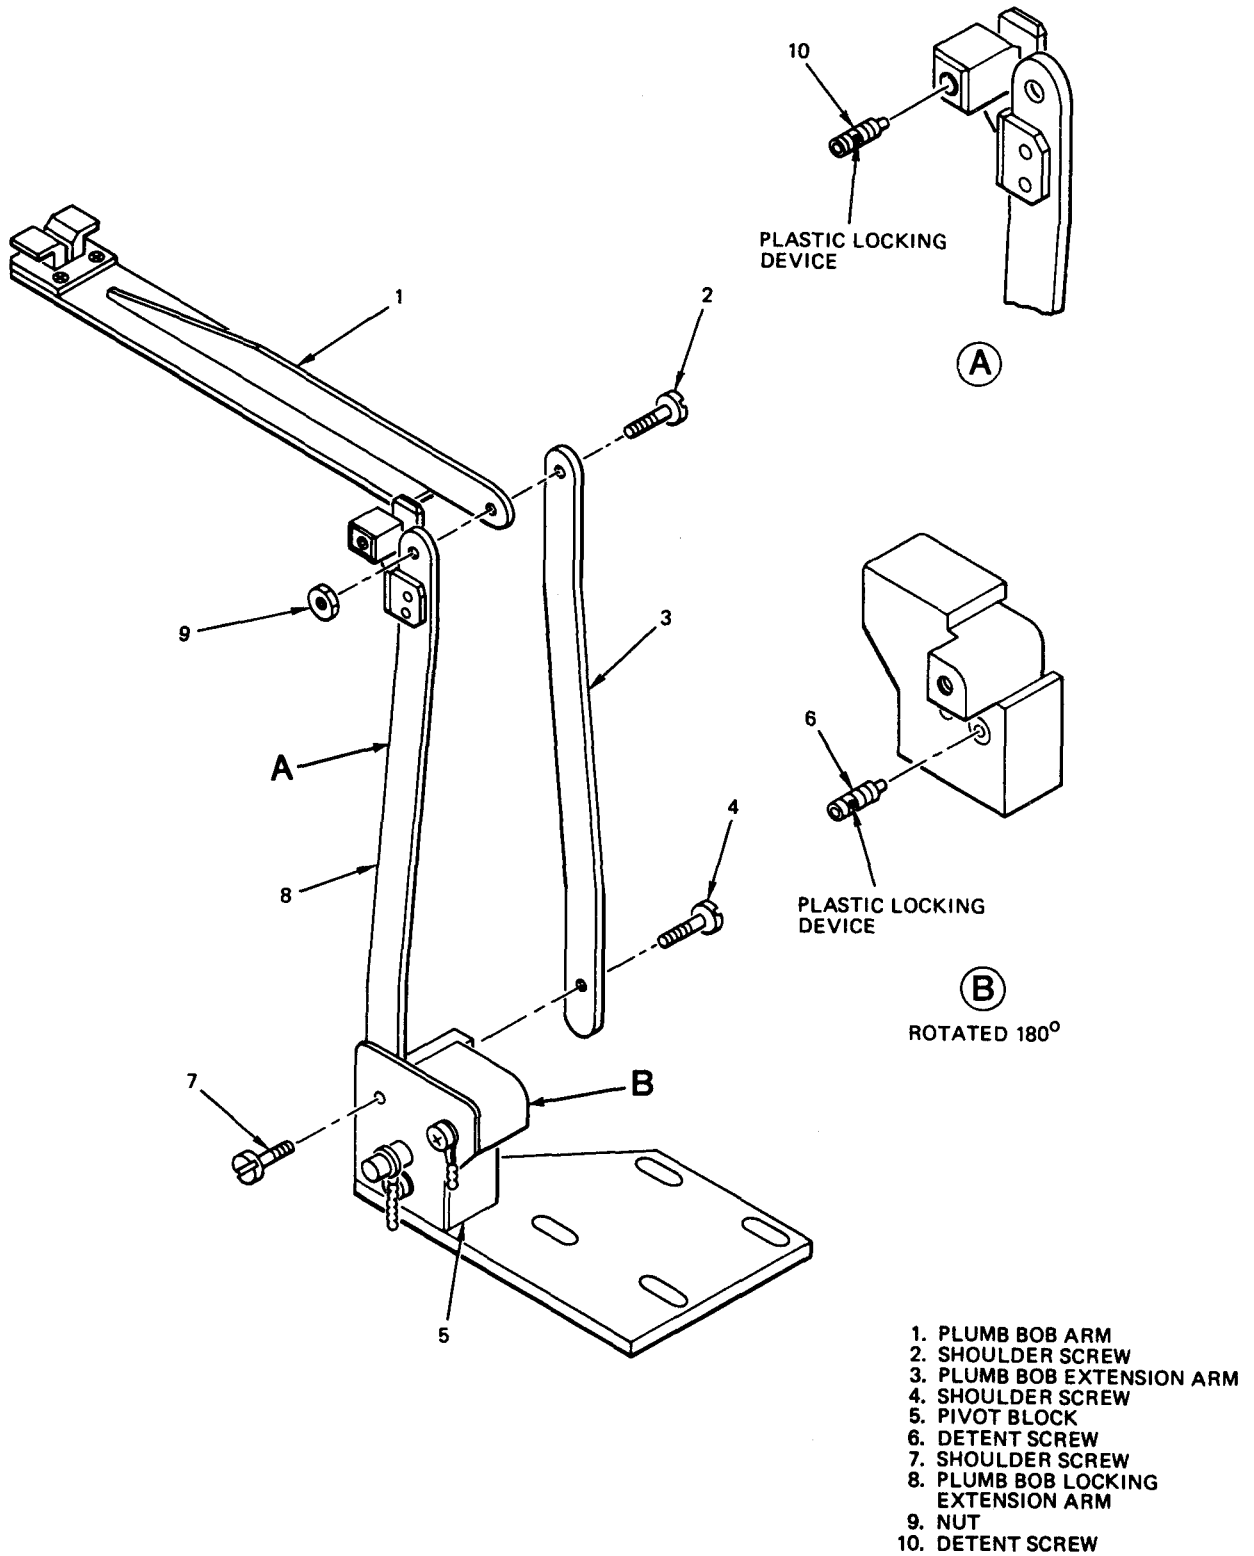

Figure 3-13. Plumb Bob Assembly Exploded View
(1) **Pivot block detent screw adjustment replacement.** See figure 3-13 and perform pivot block (5) detent screw (6) adjustment/replacement as follows:
(2) **Plumb bob locking extension arm detent screw adjustment/replacement.** See figure 3-13 and perform plumb bob locking extension arm (8) detent screw (10) adjustment/replacement as follows:
(3) **Plumb bob arm replacement.** See figure 3-13 and replace plumb bob arm (1) as follows:
(4) **Plumb bob extension arm replacement.** See figure 3-13 and replace plumb bob extension arm (3) or plumb bob locking extension arm (8) as follows: